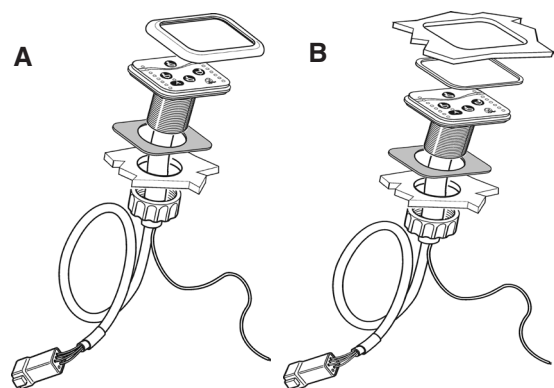

Fig. 26
Install the control panel (B), see figs. 1, 3 and 26 within easy reach at the helm station. Hole diameter 52 mm. See Fig. 3. Use the gasket included in the kit. (See Fig. 26A). If the panel is to be installed flush with its surrounding surface, press out the center part of the gasket and use the remainder for installation. see Fig. 26 B. See also the control panel hole template at the end of these instructions.
Install the control panel (B), see **figs. 1, 3 and 26** within easy reach at the helm station. Hole diameter 52 mm. See **Fig. 3**. Use the gasket included in the kit. (See **Fig. 26A**). If the panel is to be installed flush with its surrounding surface, press out the center part of the gasket and use the remainder for installation. See **Fig. 26 B**. See also the control panel hole template at the end of these instructions.